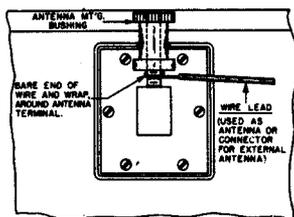

Fig. 2.—Radio Receiver and Transmitter BC-659-A, antenna terminal connections.
4. In emergencies, it may be necessary to substitute a wire antenna for the mast. This is accomplished by looping the uninsulated end of the wire around the antenna terminal between the knurled nut and the square portion of the terminal (see fig. 2). A 27 foot length of insulated wire should be used for this purpose (making a full-wave antenna, which also matches the antenna network).